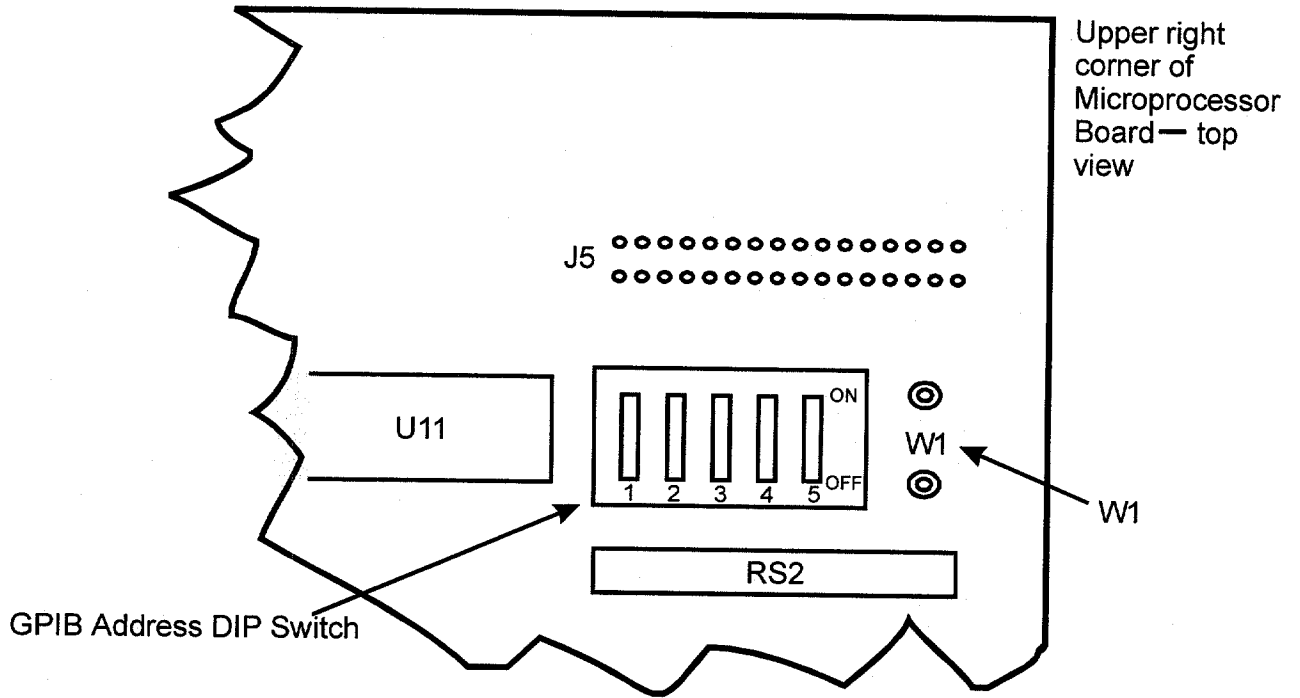

Figure 2-1. Microprocessor Board GPIB Address DIP Switch and W1 Jumper
Refer to Figure 2-1 for DIP Switch Detail.
2. The Microprocessor Board W1 jumper (shown in Figure 2-1) is normally open. If installed, this jumper causes the microprocessor to recognize DAP type language in place of the ABLE language. On models with Test Boards, this jumper determines the scaling of the readouts (refer to Program Selection below).